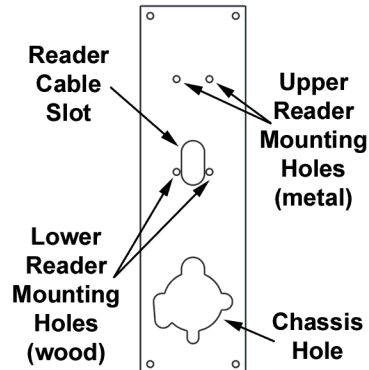
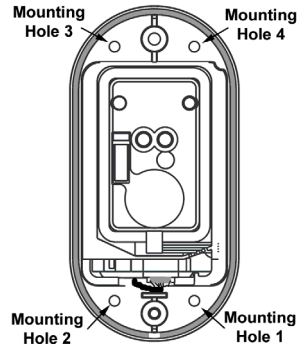

Figure 2-9 - Reader Scar/Push Plate
Figure 2-11 – Reader Base Plate Mounting Holes
- 2.5.1.2.3 If the door does not have the 2 1/8" Chassis Hole already drilled, place the Reader Scar/Push Plate, so that the center of the Chassis Hole (Figure 2-9) in the Reader Scar/Push Plate is centered over the intersection of the horizontal line drawn in Section 2.5.1.2.1 and the 2 3/4" setback line drawn in Section 2.5.1.3.2.
- 2.5.1.2.7 Using the Reader Scar/Push Plate as a template, drill or route out the door around the 2-1/8" Chassis Hole (Figure 2-9).
1 & 2, Figure 2-11) line up with the two **Lower Reader Mounting Holes** in the Reader Scar/Push Plate (Figure 2-9).
- 2.5.1.2.9.2 **METAL DOOR:** Position the Reader Base Plate against the Reader Scar/Push Plate so that the two **Top Reader Base Plate Mounting Holes** (Mounting Holes 3 & 4, Figure 2-11) line up with the two **Upper Reader Mounting Holes** in the Reader Scar/Push Plate (Figure 2-9).